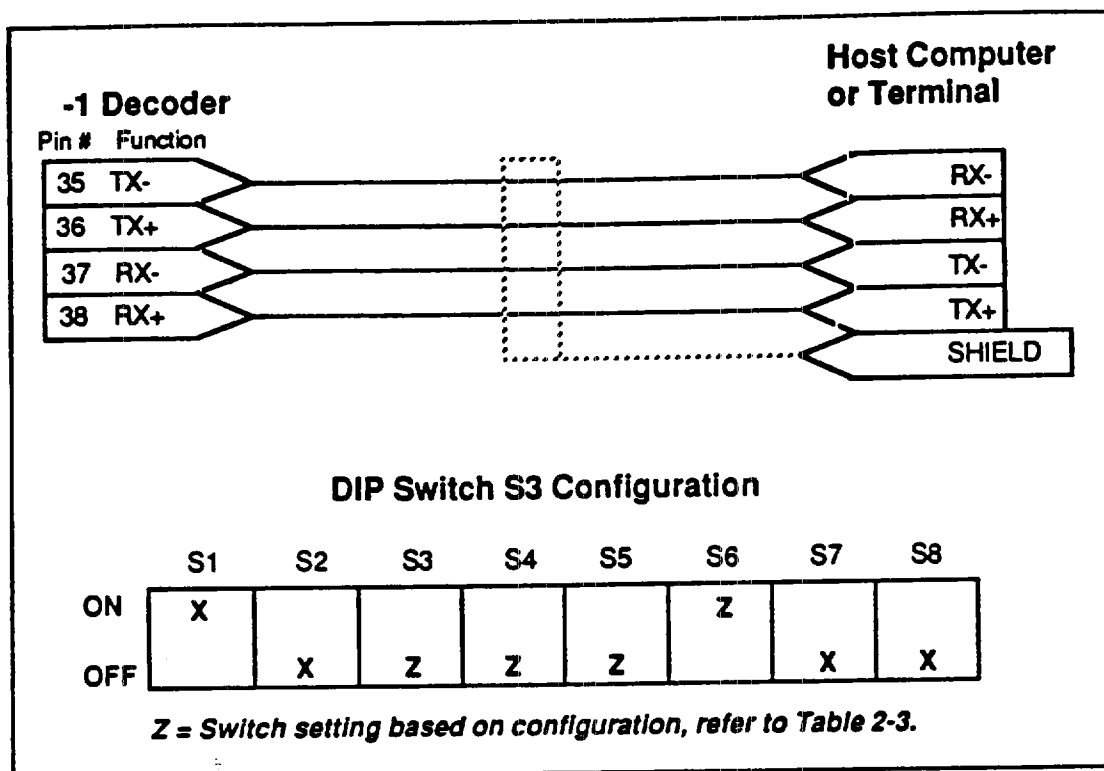

Figure 2-5. RS-422/485 Full-Duplex Serial Communication
This interface communicates serially (with ASCII characters—only upper case characters are valid). The 4-wire interconnect and proper DIP Switch settings are shown in Figure 2-5.
You should be aware of the following information if you use the configuration setting shown in Figure 2-5.
1. Be sure that power is not applied to the system. Remove the cover from the AL decoder and set the DIP switches (refer to Figure 2-5). If you are using only one unit with this interface, leave the jumpers at their factory default settings. You will have to change all of the other units' jumper settings. Put the cover back on the unit before proceeding.
2. Connect the interface from the decoder box to the computer/terminal using the instructions shown in Figure 2-5.